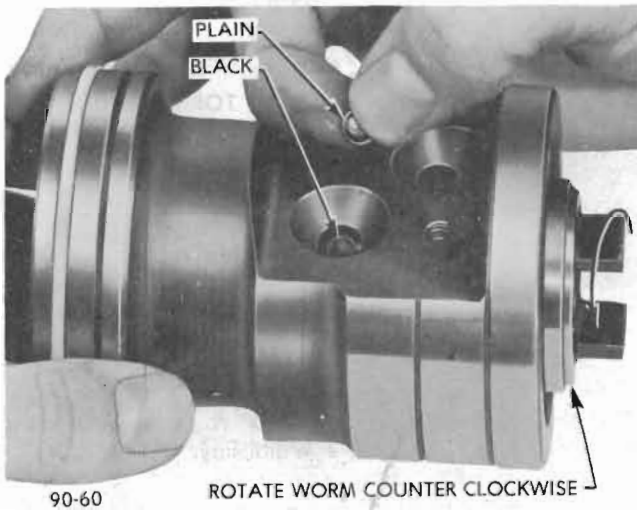

Figure 90-60 Loading Balls in Rack-Piston Nut
4. Align the ball return guide holes in the rack piston nut with the worm groove. Load all balls, except 6 (3 plain and 3 black) in alternate sequence into the guide hole nearest the piston ring while slowly rotating worm counterclockwise. See Figure 90-60.